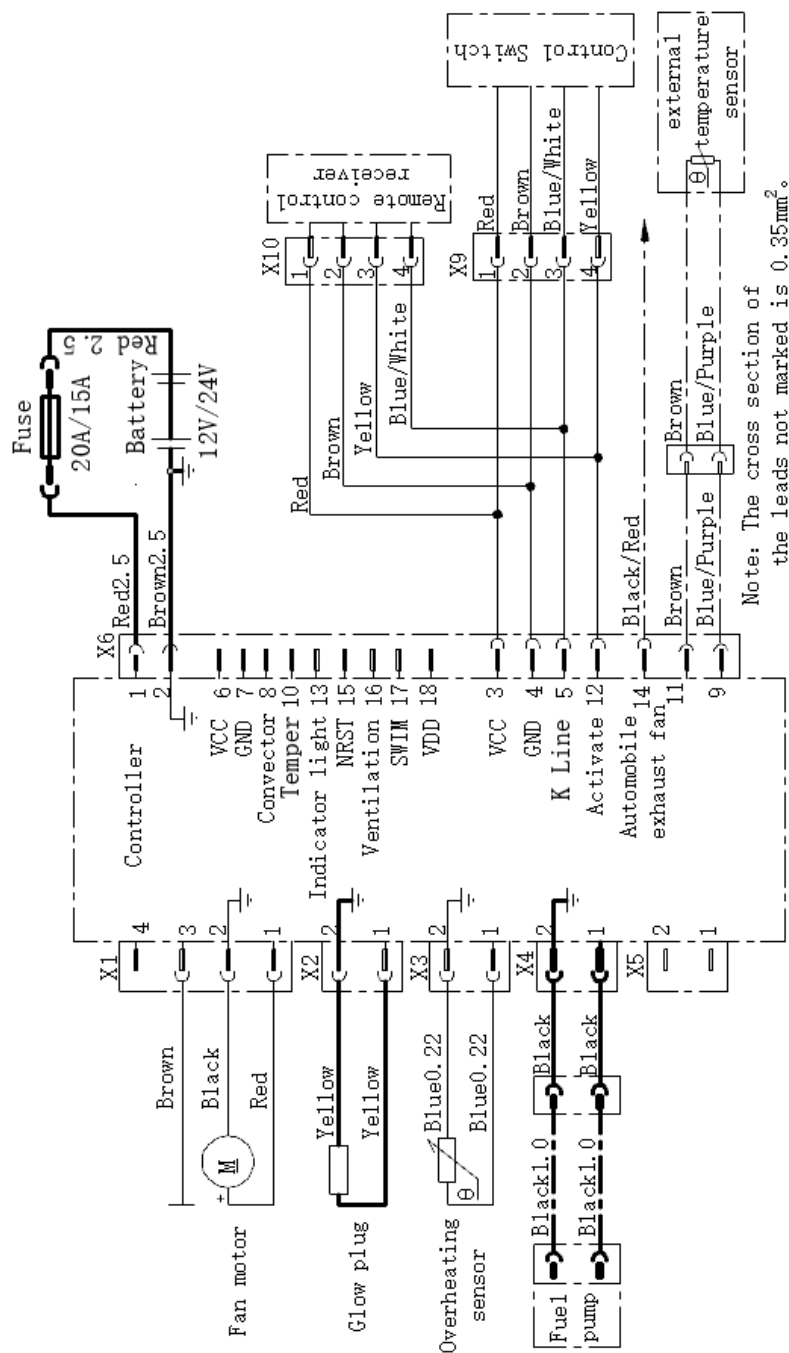

Fig.21
4.5.1 The wiring diagram for the heater is shown in Fig. 21. The wires of the main heater for connection to outside circuits have been made into wire bundles. They can be laid according to the positions of various components and shall be fixed in some proper locations. The distance between two fixing points shall not exceed 30cm. Attention: Any exposed wire bundle out of the vehicle body or out of the wiring groove must be protected by corrugated pipe.